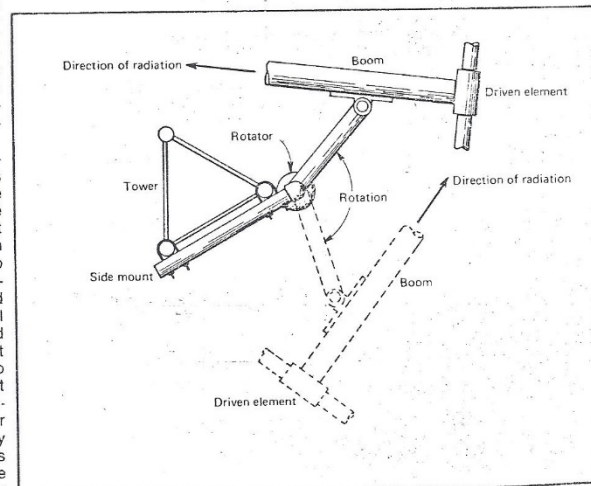

Fig. 2- Top view showing approximately 120° rotation for a three-element beam, while keeping it as far away from the tower as possible.
4. Build the 50-Ohm resistance bridge according to the schematic shown in Fig. 2.
Fig. 2. This is the circuit of the 50-Ohm resistance bridge. R1 should match R2. RX should be trimmed so that incident (fwd) voltage equals reflected voltage. The 1:1 and 2:1 positions of switch S1 are simply 50-Ohm and 100-Ohm resistors to ground. When switched in, these positions give a quick self-check of the unit. D3 and D4 are the feedback diodes for the Tektronix 190B generator. All diodes = 1N270.
This picture shows the frequency interface. It connects between the KWM-380 control interface connector and the Apple game port. See fig. 2 for its schematic.
My 20-meter beam is a three-element; about 120 degrees rotation is all I'm able to obtain, because the driven element is too close to the mast clamp (fig. 2). A four-element beam with greater spacing between the driven element and mast clamp could permit as much as 270° rotation. The load on the tower and rotator does not seem to have any ill effects. Caution must be exercised while turning the antenna, because it is possible to drive the antenna into the tower. I have not built any limit switches, but they easily could be inserted in series between the motor leads if extra safety is desired. My tower is Rohn 45. The dimensions reflect this size tower, but the same design can be scaled to whatever tower is used.